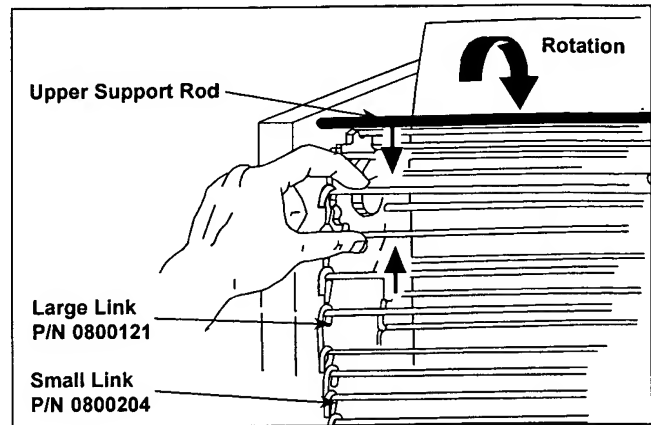

Figure 16. Removing Conveyor Belt
After a period of time, the conveyor links will wear and the conveyor belt will stretch, eventually causing buns to stick. This is easily remedied by removing one or more conveyor links from each side of the belt. There are four 1/2" small links on each side of the conveyor belt. The rest of the links are large, 3/4" long (Figure 16).
2. Disconnect the conveyor belt by squeezing any two links together and unhooking both ends of one link (Figure 16).
NOTE: If the belt is too short to be reassembled, remove an additional 1/2" small link and install a 3/4" large link. This will shorten the belt 1/4" overall. See Figure 16 for links part numbers.
2. Place replacement conveyor belt on top sprockets. Check for correct positioning (Figure 16).
NOTE: Install conveyor belt so that the ends of the hooks are facing down (Figure 16).